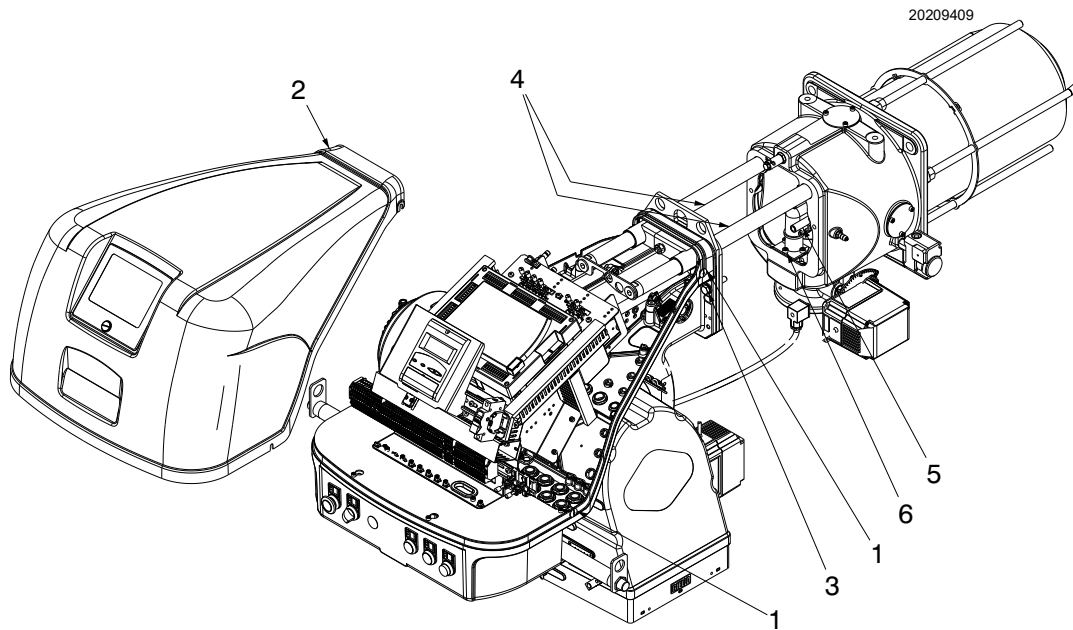

Fig. 41
- Loosen the 4 screws 1)(Fig. 41) and remove the cover 2);